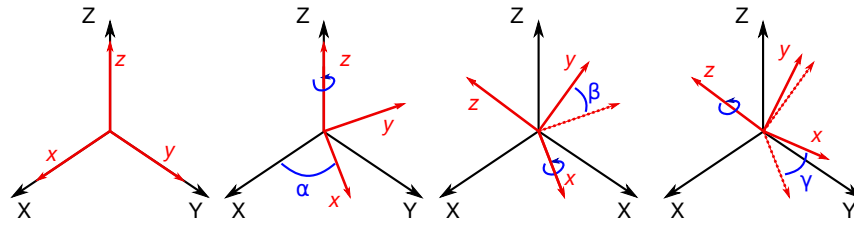

Figure 5-2. A rotation represented by Euler angles (α, β, γ) using $\mathbf{Z}(\alpha)\mathbf{X}(\beta)\mathbf{Z}(\gamma)$ intrinsic rotations.
- Local Coordinate Systems.** It is possible to have the ICFD parts or ICFD_PART_VOLs rotate around the global reference frame but also to define and use a local reference frame by defining its point of origin and two of its vectors $\mathbf{v}_1 = (X1, Y1, Z1)$ and $\mathbf{v}_2 = (X2, Y2, Z2)$. The third vector is, then, in the direction of $\mathbf{v}_1 \times \mathbf{v}_2$. See Figure 5-2.